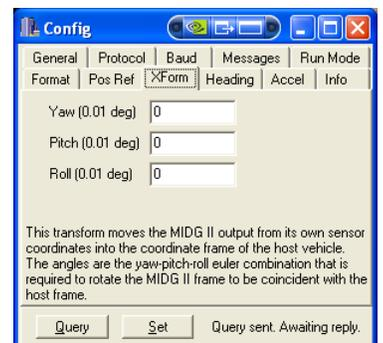

Figure 25. XForm tab
6.9 XForm - The "XForm" tab (short for "Transform") is used to change the virtual position of the unit (Figure 25). When a MIDG Series INS/GPS is mounted in an application; perfect alignment is often not possible. The "XForm" tab aligns the unit's output from its own sensor coordinates into the coordinate frame of the host vehicle. The angles are yaw-pitch-roll Euler combination. These angles are required to rotate the MIDG Series INS/GPS frame to be coincident with the application.